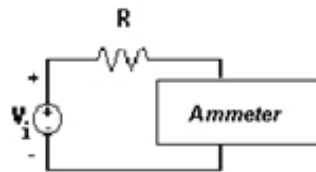

Figure 1. Resistor current measurement circuit
12. Measure the current through the resistor using the multimeter. Use the circuit of figure 1.
An ideal ammeter has zero resistance so that the circuit in which it has been placed is not disturbed. An ideal ammeter is a short circuit. However, as with the voltmeter, no ammeter can ever be ideal, and therefore all ammeters have some (hopefully) small internal resistance. To determine the resistance of the ammeter, you can use the circuit in Figure 1. According to Ohm's Law, the current in this circuit will be  $I = V/R$  where  $R = R + R_M$ . So the current can be found using the equation:
2. Design a circuit to measure the internal resistance of the ammeter (i.e. assemble the circuit of Figure 1). Set the multimeter to the ammeter mode for dc current measurement.